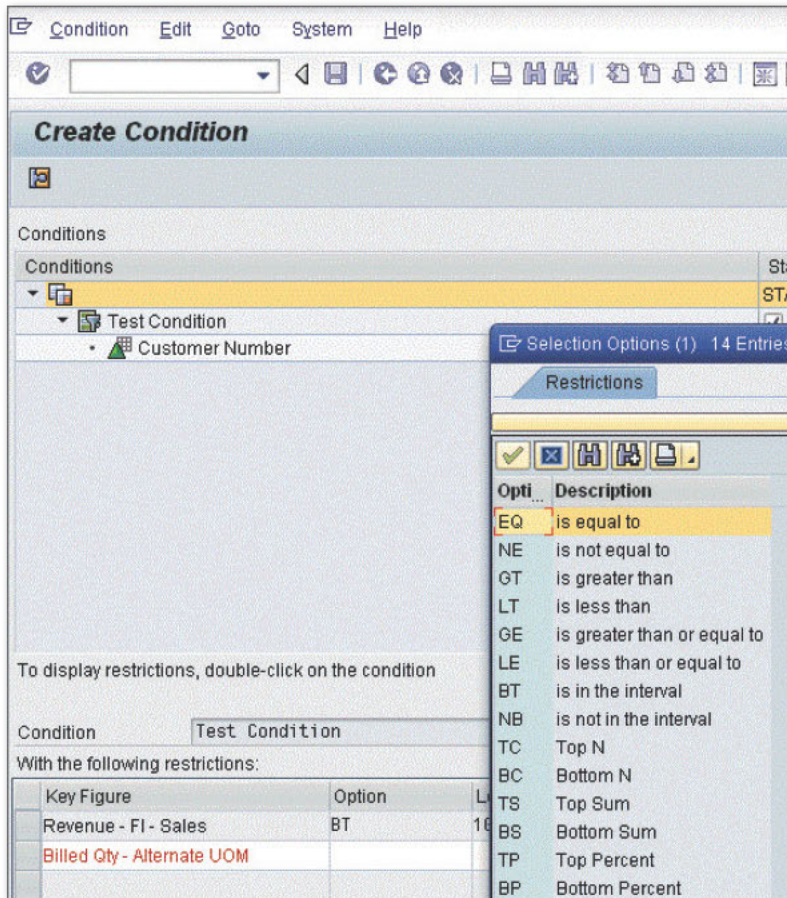

Figure 3 Selecting Key Figure, Option, and Low and High Condition Restrictions
3. As shown in Figure 3, here we will create the condition by selecting the key figure (i.e., REVENUE - FI - SALES), Option (i.e., BT, which stands for IS IN THE INTERVAL), Low (i.e., 10000), and High (i.e., 1000000) condition restrictions.